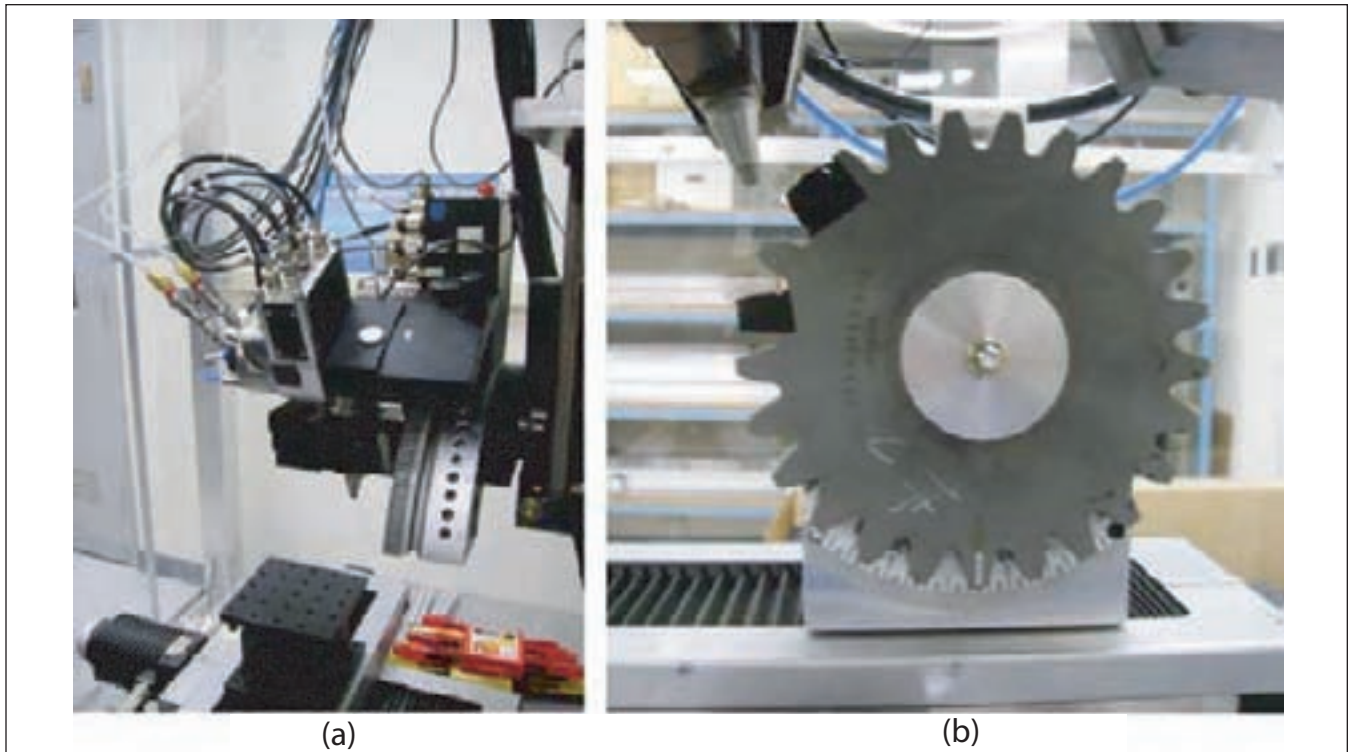
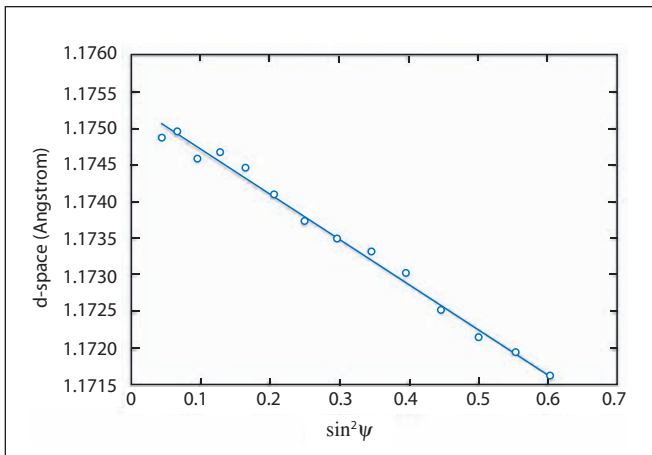

Figure 7—(a) X-ray source and detector portion of TEC model 1600 diffractometer; (b) Unfinished 2 mounted in x-ray diffractometer.
Figure 8—An example  $\sin^2\psi$  plot used to determine the residual stress. The slope is proportional to the residual stress.
Residual stress measurements were made using the Model 1600 TEC diffractometer in the Residual Stress User Center at Oak Ridge National Laboratory. The residual stress measurements involved measuring the interatomic spacing ( $d$ -space) between atoms for the (211) crystal plane at different x-ray beam incident angles ( $\psi$ ) (Ref. 1). The measured  $d$ -space is the average value for a group of properly oriented grains near the irradiated surface. The residual stress was determined using the  $\sin^2\psi$  technique (Ref. 2). In this method  $d$ -space is plotted as a function of  $\sin^2\psi$ . The y-intercept of the plot was taken as the unstrained  $d$ -space ( $d_0$ ) with the slope being proportional to the residual stress. A 2 mm (0.079") diameter collimator, vanadium filter, and  $K\alpha$  radiation from a chromium x-ray target were used. Figure 7 shows a picture of a portion of the diffractometer and one of the samples mounted in the diffractometer. On average, 10  $\psi$ -angles with a two-degree oscillation were used at each radial location. As seen in Figure 7, black electrical tape was used to cover neighboring teeth to eliminate any radiation scattered from them. Figure 8 provides an example of a typical  $d$ -space versus  $\sin^2\psi$  plot.